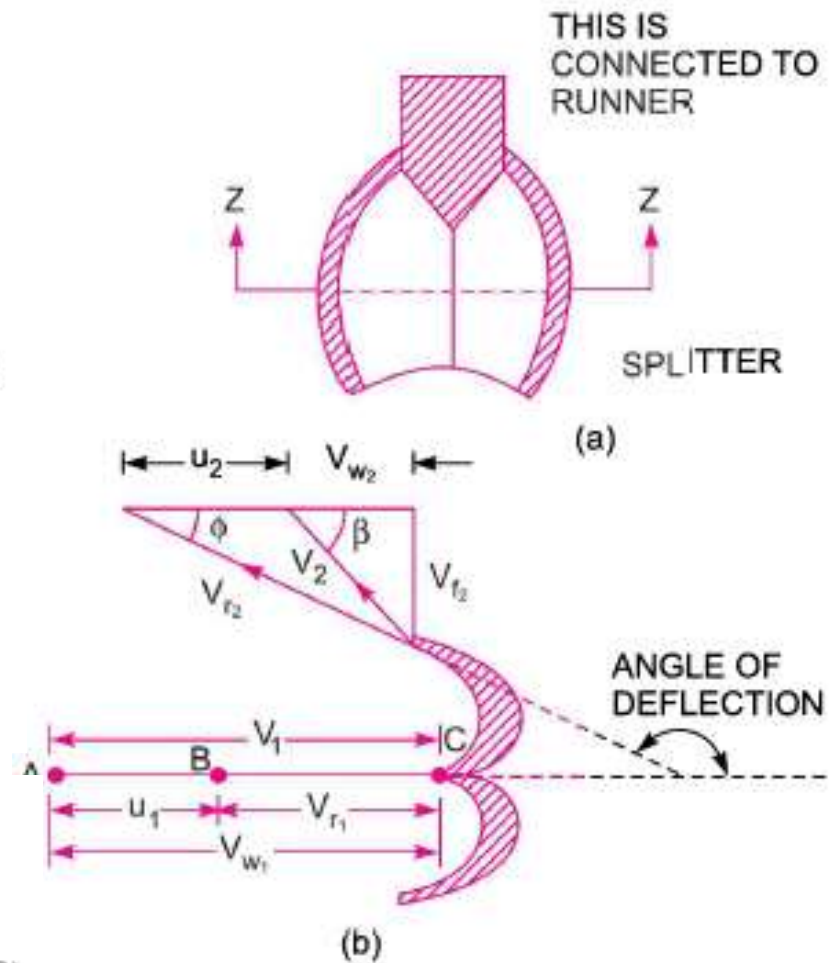

Fig. 18.5 Shape of bucket.
18.6.1 Velocity Triangles and Work done for Pelton Wheel. Fig. 18.5 shows the shape of the vanes or buckets of the Pelton wheel. The jet of water from the nozzle strikes the bucket at the splitter, which splits up the jet into two parts. These parts of the jet, glides over the inner surfaces and comes out at the outer edge. Fig. 18.5 (b) shows the section of the bucket at Z-Z. The splitter is the inlet tip and outer edge of the bucket is the outlet tip of the bucket. The inlet velocity triangle is drawn at the splitter and outlet velocity triangle is drawn at the outer edge of the bucket, by the same method as explained in Chapter 17.